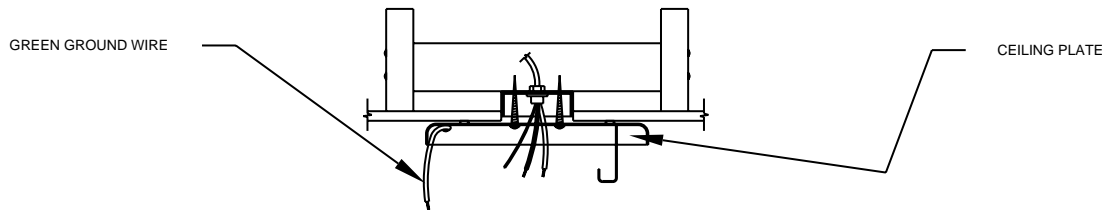

FIGURE 6.
- A. CONNECT ELECTRICAL SUPPLY LEADS TO THE LEADS FROM MOTOR, USING APPROVED CONNECTORS. CONNECT BLACK ELECTRICAL SUPPLY LEAD TO THE BLACK MOTOR LEAD AND THE BLACK WITH WHITE STRIPE MOTOR LEAD (SEE NOTE). CONNECT THE WHITE ELECTRICAL SUPPLY LEAD TO THE WHITE MOTOR LEAD. CONNECT THE GROUND WIRE TO THE GREEN LEADS FROM THE MOTOR AND CEILING PLATE. SEE FIGURE 6.